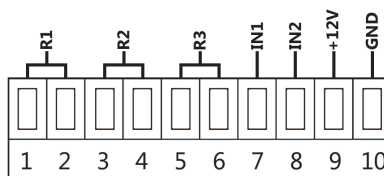

Figure 2.2.1
- Make the wiring connections. (See **Figure 2.2.1** and **2.2.2** for MCU J9 connector)